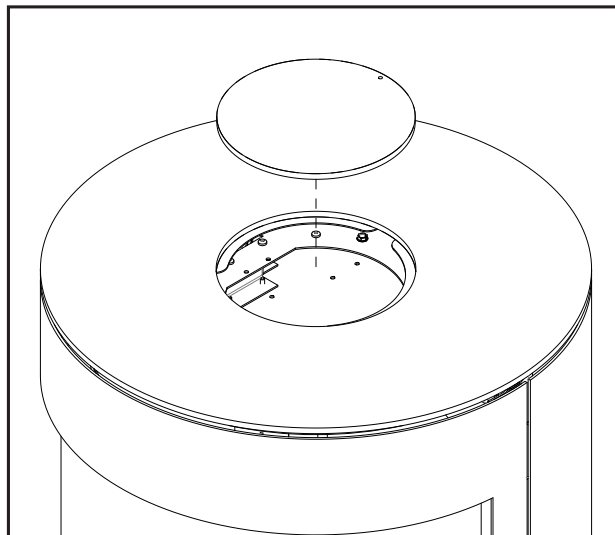

Figure 75: Top Plate Blank
14. Place the top plate blank (included with the unit) into the top plate (see Figure 75).